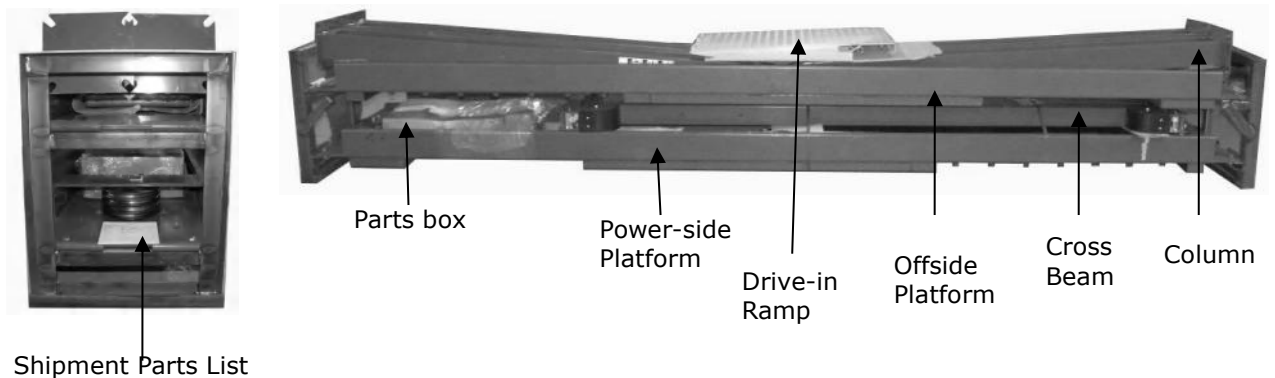

Fig.8
3. Open the outer packing carefully (See Fig. 8).